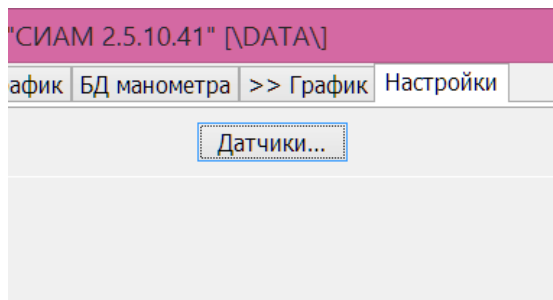

Figure 3. The “Settings” tab in the “DB SIAM”
- press the “Devices” button (see Fig.3);